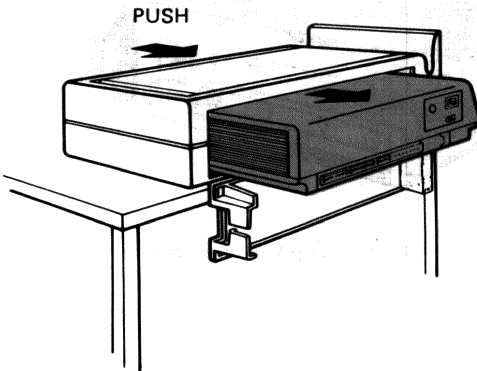

Figure 5-2 Removing System Unit from Floor Stand
3. Close the rear door of the floor stand, and place the floor stand on a desk so its door opens downward (Figure 5-2).